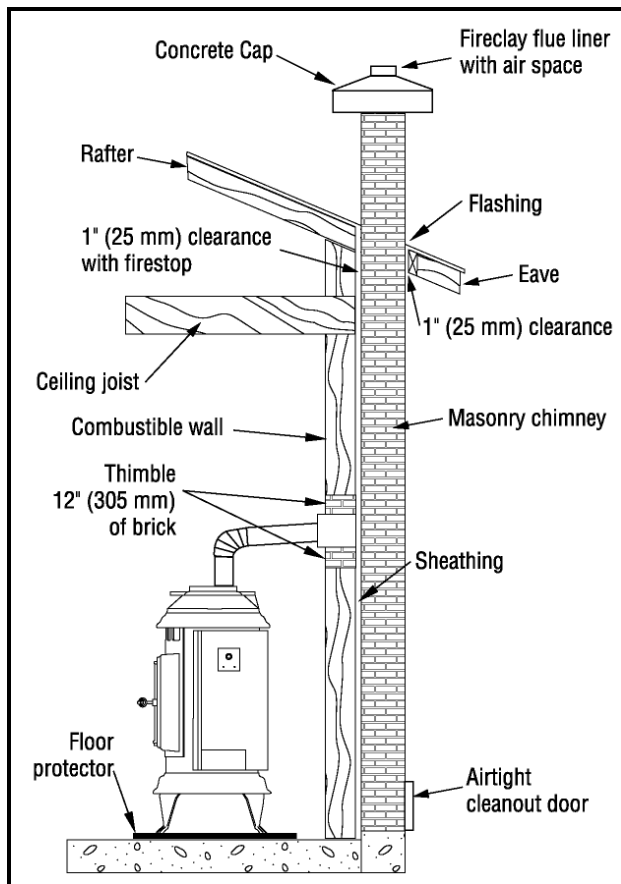
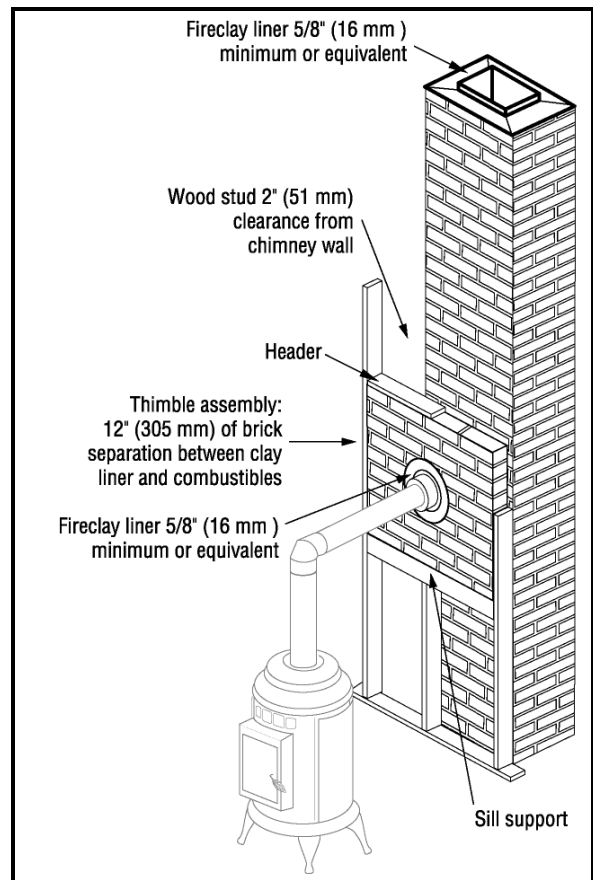
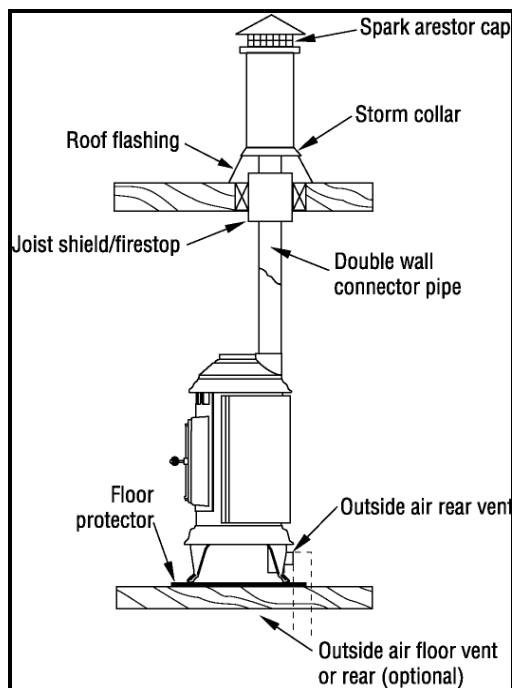

FIGURE 11. MASONRY CHIMNEY
FIGURE 12. MASONRY CHIMNEY
FIGURE 13. MOBILE HOME INSTALLATION
- B. APPROVED MASONRY (see specifications in Figure 12 and Figure 13) with at least 5/8” (16mm) fire clay lining joined with refractory cement or other listed system suitable for use with wood stoves.
When connecting the stove through a combustible wall to a masonry chimney, special methods are needed. There are several ways to make this connection. Refer to the masonry diagrams in Figure 11 and Figure 12, and check with your local building officials to make sure the installation conforms with CAN/CSA-B365.